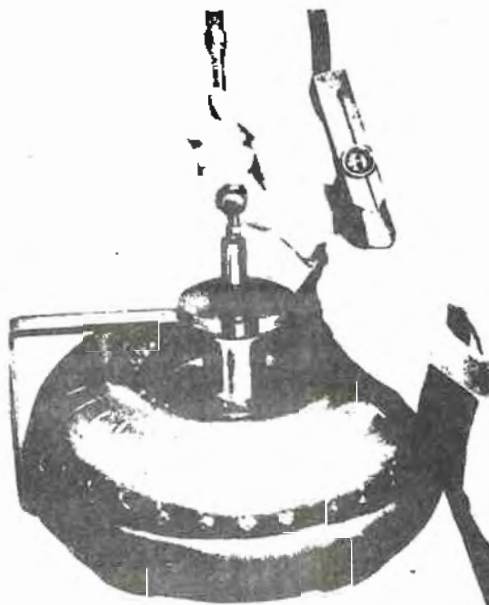

Fig. 2 Testing Converter for leaks
2. Fill converter with air (See Fig. 2), to 80 lb/sq.in. (5,625 kg/sq.cm.).